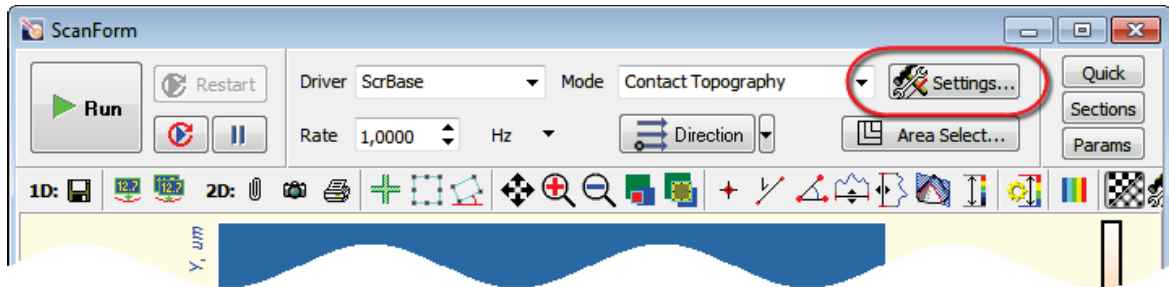

Fig. 6-8. Settings
1. Open the **ScanSettings** window by clicking the  **Settings...** button in the Scanning window (Fig. 6-8).